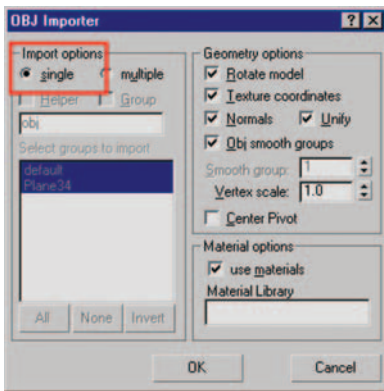

Figure 11.48 OBJ Importer with Single selected (red).
- When the OBJ Importer window pops up be sure to select Single in the Import options box. Figure 11.48 shows the OBJ Importer with Single selected. Click OK and the ZBrush mesh appears in the 3ds Max viewport.